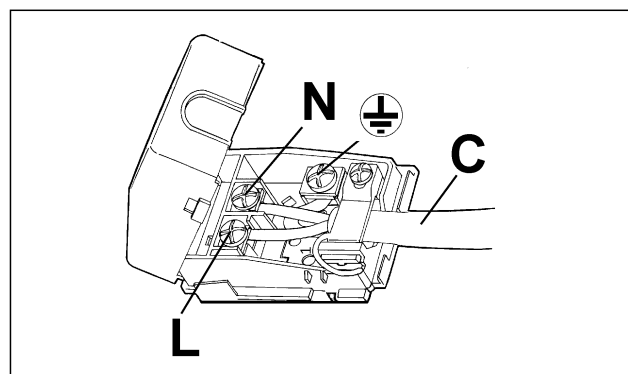

FIG. 9
- If the appliance is not equipped with an input cable, connect to the clump with an adequate section cable (see scheme paragraph 7) keeping the "earth" conductor longer than "live" ones, following the scheme of fig. 9.
- apply to the input cable "C", if unprovided, a normalized plug adequate to the load indicated in the identification label. Connect the cables according to the scheme of fig. 9, making sure to respect the undermentioned responses: